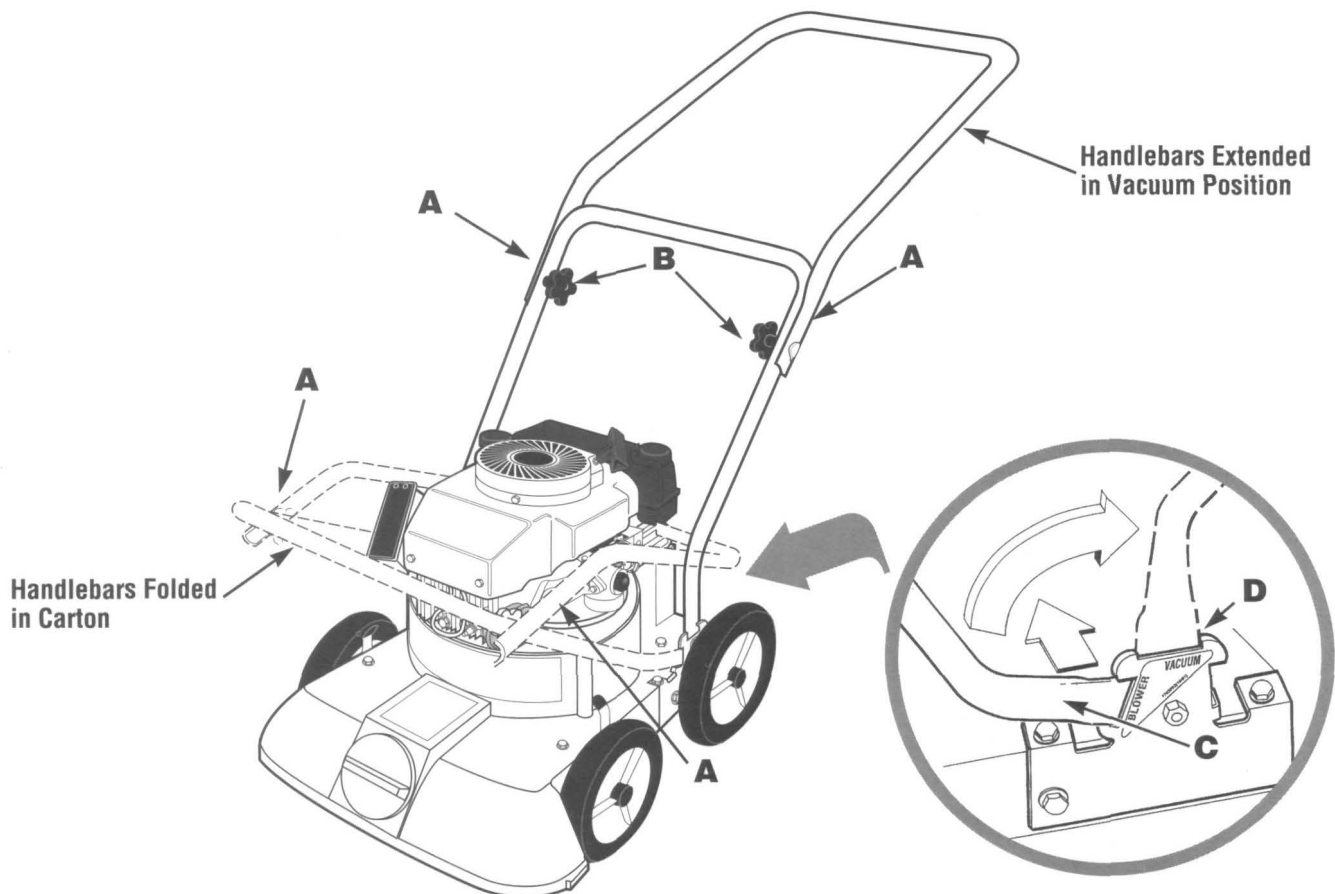

Figure 2: Handlebar position for vacuuming.
NOTE: The machine has two handlebars positions. For walk-behind vacuuming, using the chipper, or for using the optional vacuum hose, the handlebars must be in the "vacuum" position. Because the handlebars are shipped in the "blower" position for packaging considerations, the first assembly step is to change the handlebars to the "vacuum" position as described below and shown in Figure 2.
- A. Tighten the knobs (B).
- B. Squeeze the handlebars ends (C in Figure 2 inset) toward the center of the machine to release them from the notches in the mounting brackets and swing the handlebars up over the machine toward the rear.
- C. Position the handlebar ends in the "vacuum" notches of the brackets (D in Figure 2 inset).
- D. Unfold the handlebars until the channels on the upper left and right handlebars are aligned with the lower handlebars (A).